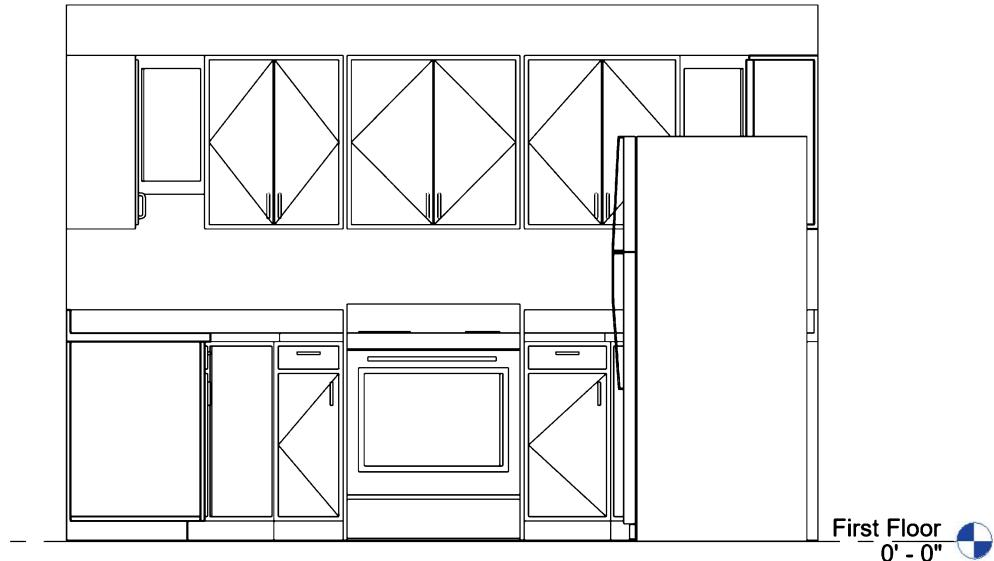

FIGURE 12-2.8 Kitchen (east); initial view
17. Set the *View Scale* to $\frac{1}{2}'' = 1'-0''$; your interior elevation view should look like **Figure 12-2.8**.
Depending on where, exactly, you placed the *Elevation Tag*, you may see the side of the refrigerator or a section through it, as in Figure 12-2.8. In this case you will want to adjust the view so you see the cabinets beyond, which is more important to show. You will switch back to the plan view and adjust the views settings.